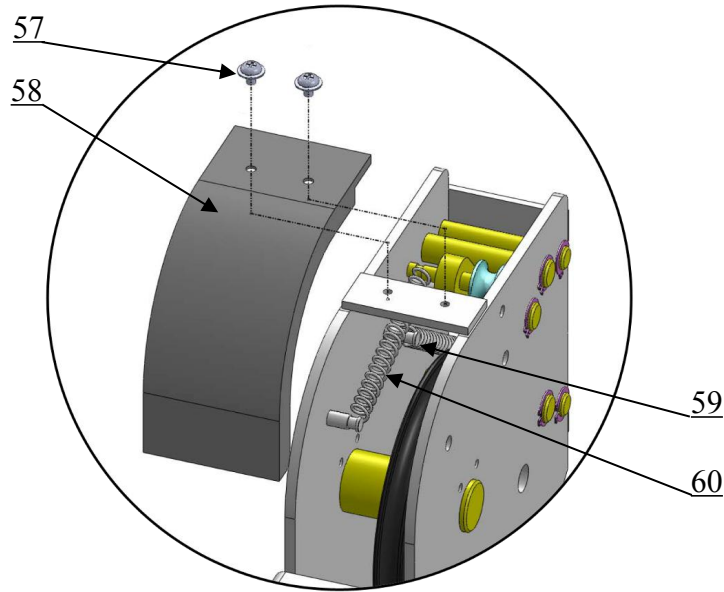

Fig. 31
N. Install spring and safety cover of cross beam (See Fig. 31).